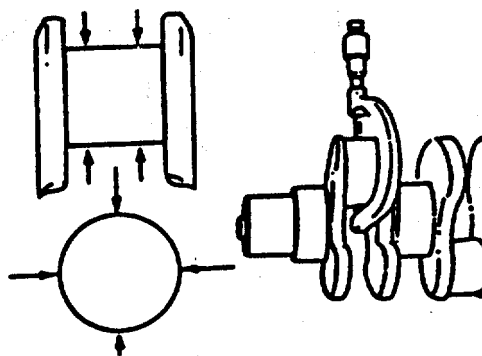

FIGURE 4-42. Measuring Mean Diameter of Rod Journal.
- (2) Measure and record the mean diameter of rod journal on the crankshaft (FIGURE 4-42).